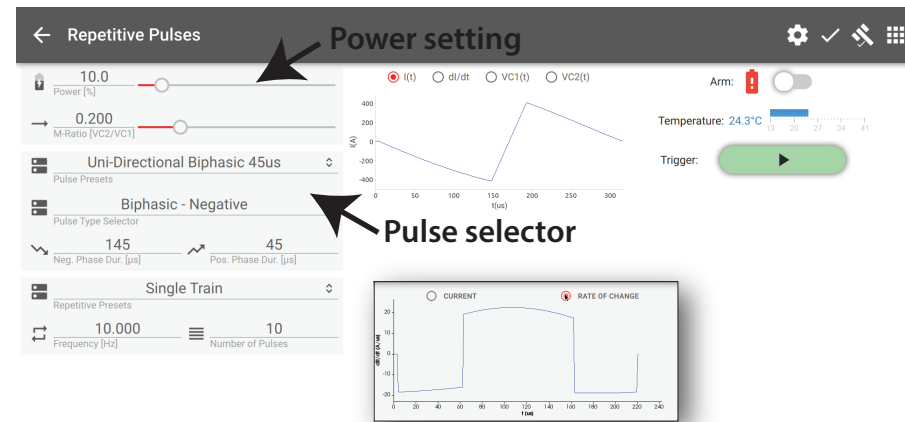
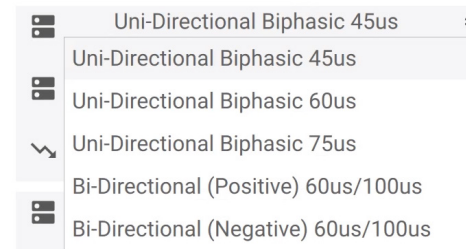

Fig. 4-1: **Repetitive pulse selection screen.** Note the ability to switch the pulse shape display from current to rate of change (inset).
Fig. 4-2: **Currently available pulse list.**
- From the system main menu, tap Run Repetitive Pulses to move to the rTMS screen (Fig. 4-1). Tap on the pulse selector to open the list of available pulses (Fig. 4-2) and select the desired pulse.